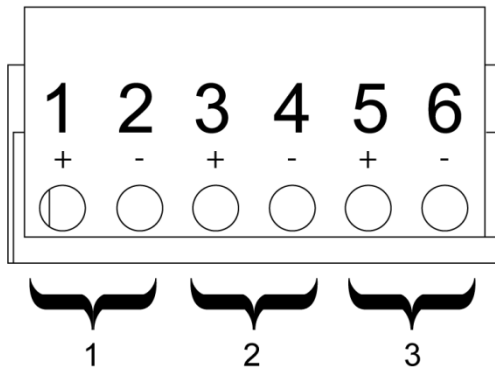

Figure 21. Signal input terminal block connector assignments
5. Connect the signal input interface cabling as shown in Table 8 and Figure 21.